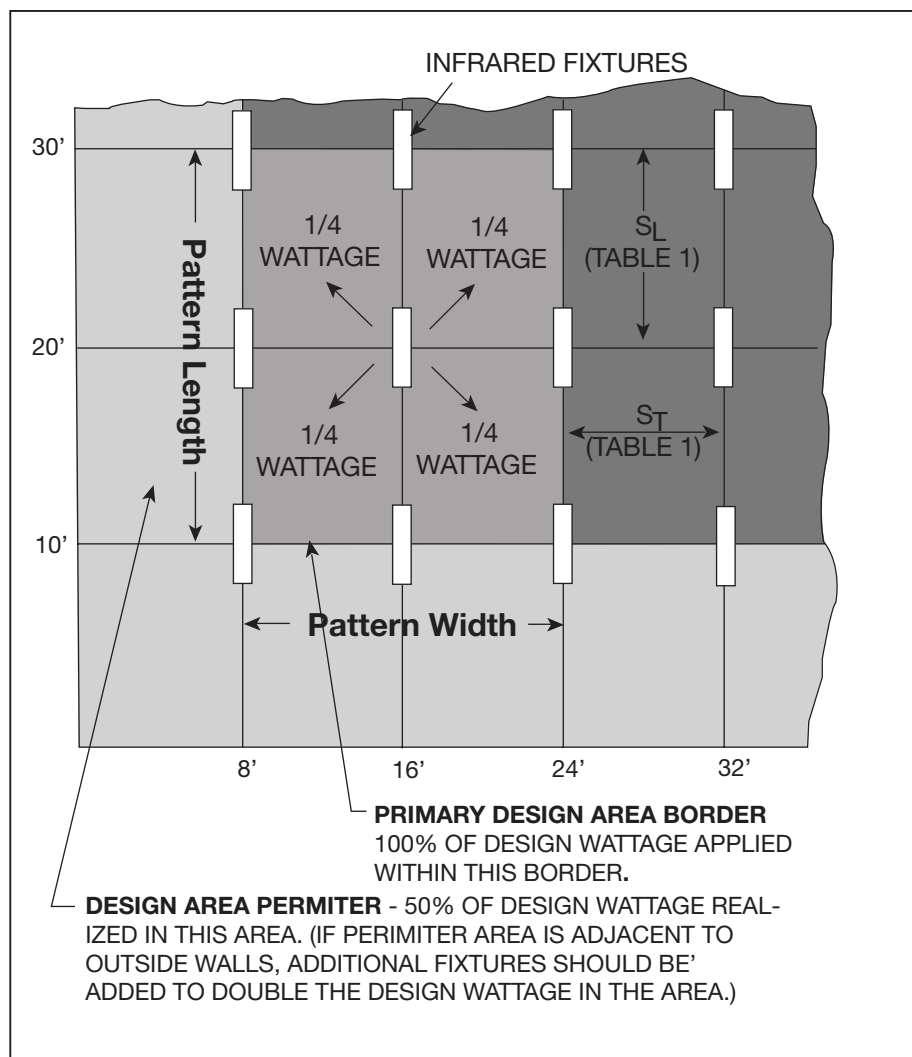

Figure 8: Typical Area Heating Layout
10. Choose specific fixtures that meet the heating requirements noting that half the wattage should be on each side of the workstation in the design area. Space the heaters to provide a 50% overlap using the formula provided in Figure 8. See Figure 7 for typical layout.